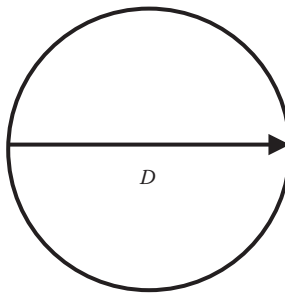

FIGURE 11.4 Circumference.
The circumference is the length of the outer border of a circle. The circumference is found by multiplying pi (π) times the *diameter* (D) (a straight line passing through the center of a circle, or the distance across the circle; see Figure 11.4):